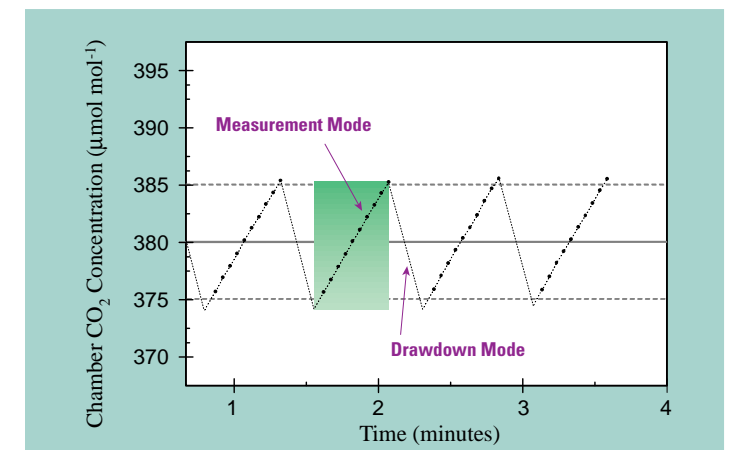

Figure 4. Data from a measurement with four cycles.
1. Ambient CO₂ concentration (380 µmol mol⁻¹, in the example in Figure 4).
2. The CO₂ change that determines the upper and lower set points ($\Delta\text{CO}_2 = \pm 5 \mu\text{mol mol}^{-1}$ from ambient in Figure 4).
The LI-6400 enters drawdown mode after the "Start" key is pressed. Air is pumped from the chamber through the soda lime CO₂ scrubber and back into the chamber. The system software automatically stops the pump and enters measurement mode after the CO₂ concentration drops to just below the set point (Figure 4).